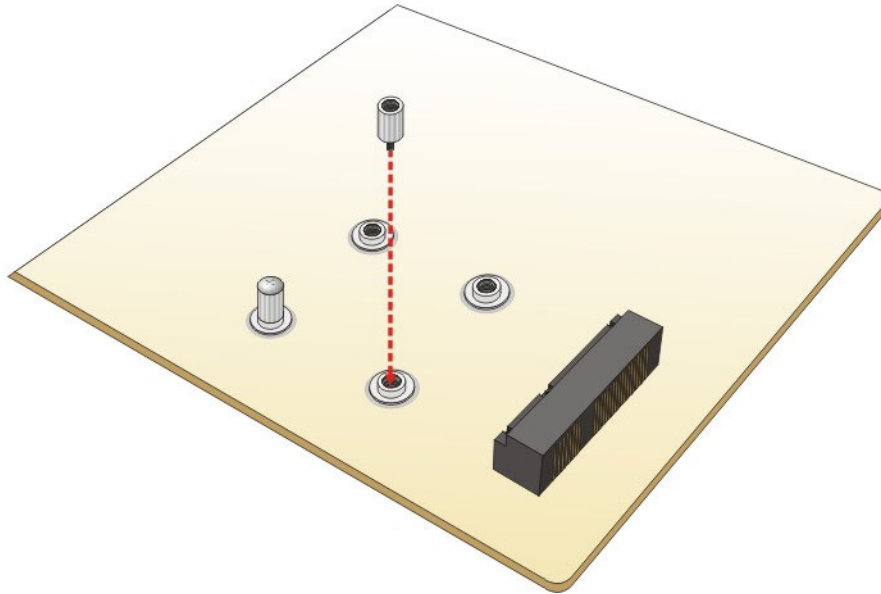

Figure 4-7: Installing the Standoff
Step 4: Install the standoff to the screw hole for the half-size PCIe Mini card. Install the previously removed standoff to the screw hole for the half-size PCIe Mini card (**Figure 4-7**).